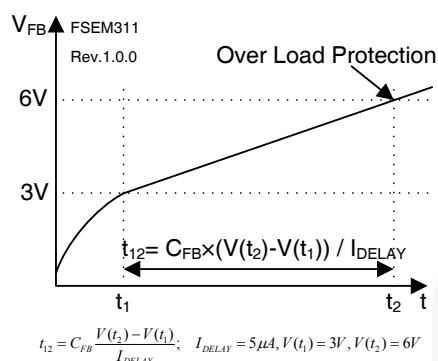

Figure 17. Over Load Protection (OLP)
4.1 Over Load Protection (OLP): Overload is defined as the load current exceeding a pre-set level due to an unexpected event. In this situation, the protection circuit should be activated in order to protect the SMPS. However, even when the SMPS is operating normally, the over load protection (OLP) circuit can be activated during the load transition. In order to avoid this undesired operation, the OLP circuit is designed to be activated after a specified time to determine whether it is a transient situation or an overload situation. In conjunction with the I_{PK} current limit pin (if used) the current mode feedback path would limit the current in the Sense FET when the maximum PWM duty cycle is attained. If the output consumes more than this maximum power, the output voltage (V_O) decreases below its rating voltage. This reduces the current through the opto-coupler LED, which also reduces the feedback voltage (V_{FB}). If V_{FB} exceeds 3V, the feedback input diode is blocked and the 5μA current source (I_{DELAY}) starts to charge C_{FB} slowly up to V_{CC} . In this condition, V_{FB} increases until it reaches 6V, when the switching operation is terminated as shown in Figure 17. The shutdown delay time is the time required to charge C_{FB} from 3V to 6V with 5μA current source.